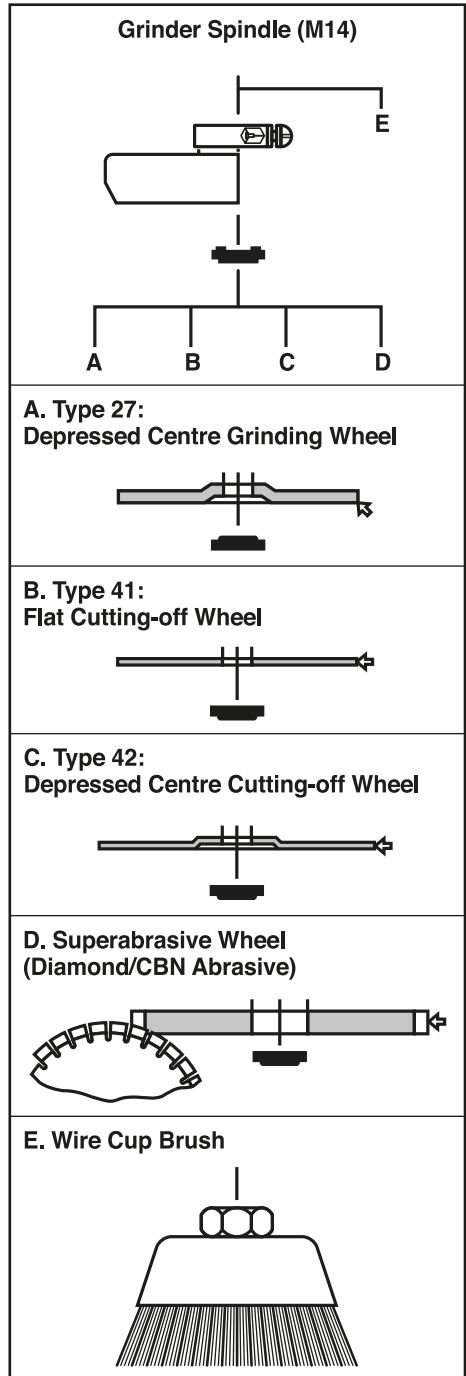

FIG.7
## 8.6 FITTING/REPLACING ACCESSORIES (sold separately) – FIGS. 7 – 9
- Press and hold the spindle lock button (3).
- Loosen the locking flange (4) anti-clockwise using the pin spanner (8) supplied.
- When fitting the appropriate accessory please refer to (FIG.7, on page 17) for specific details on the locking flange correct orientation as applicable.
- Securely tighten the locking flange clockwise using the pin spanner while holding down the spindle lock (4).
**Warning!** Never press the spindle lock button (4) while the spindle is in motion.